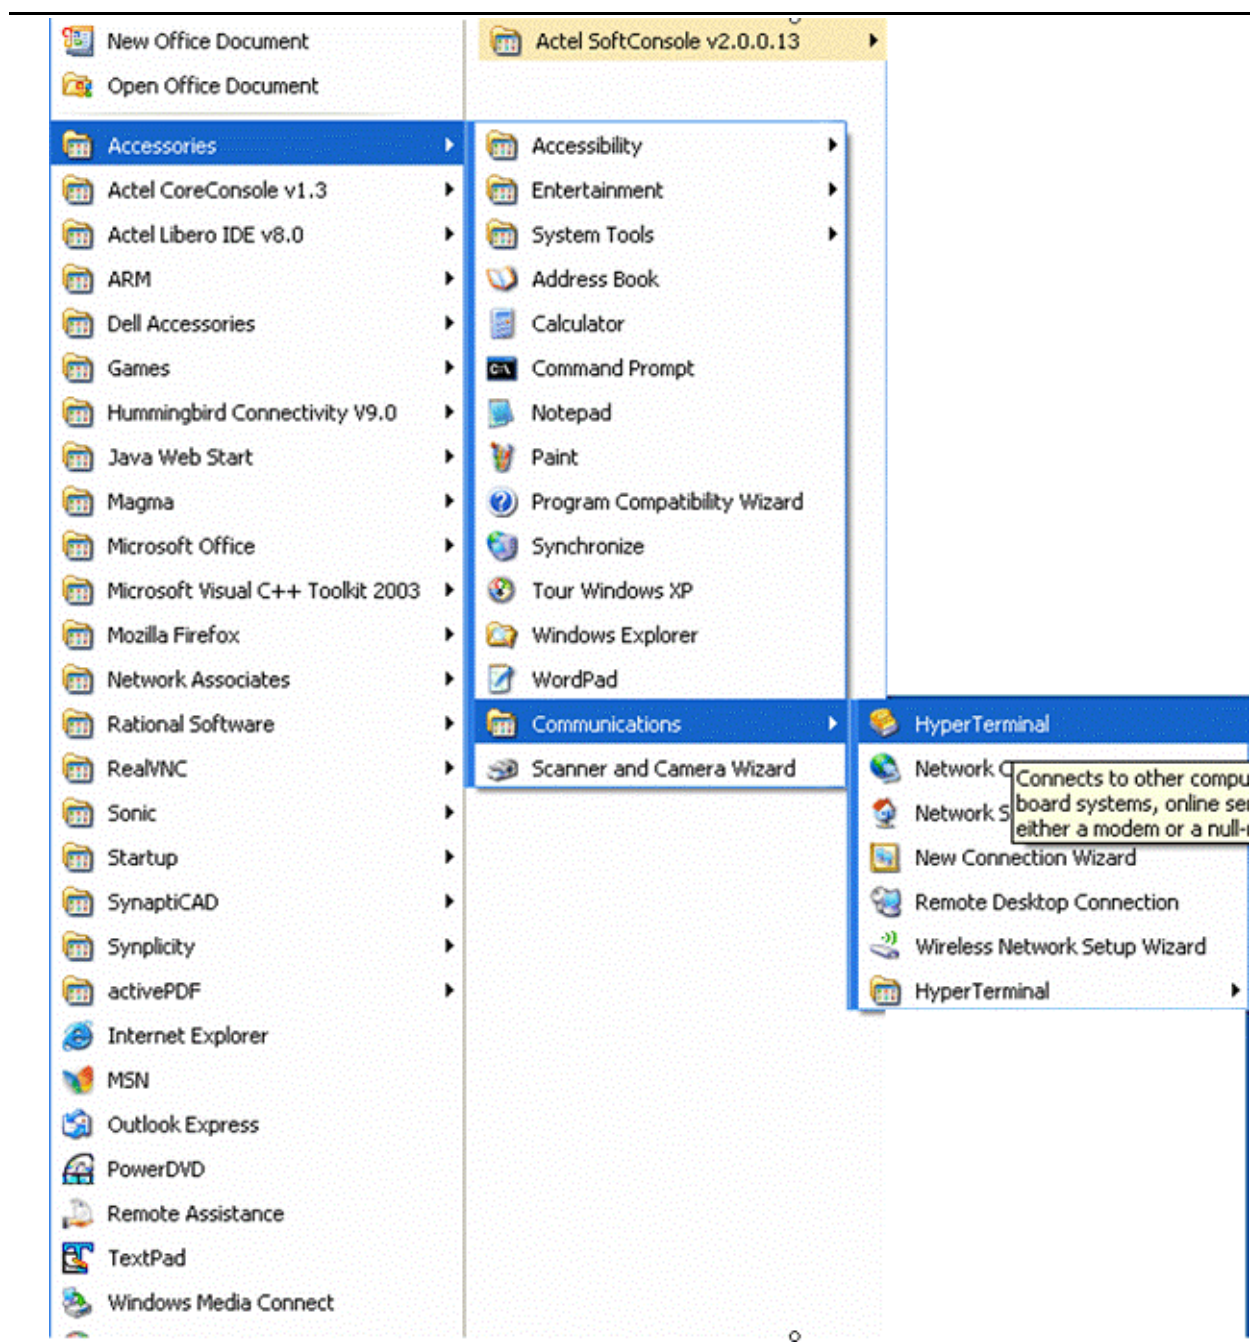

Figure 5 • HyperTerminal Program Setup
1. Open the Windows start menu. Select **All > Programs > Accessories > Communications** and select the HyperTerminal program (Figure 5). This opens HyperTerminal.